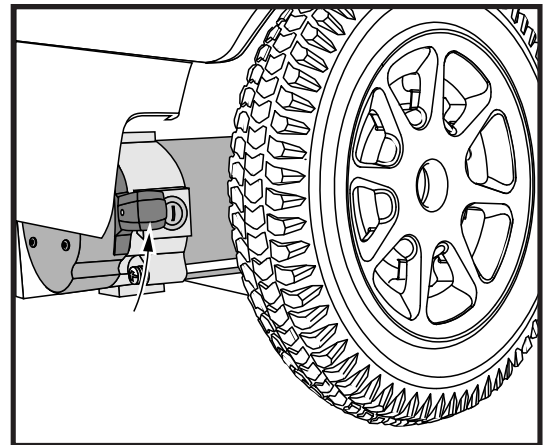

Figure 8. Drive Mode
2. Pull up both manual freewheel levers for drive mode (drive motor engaged). See figure 8.